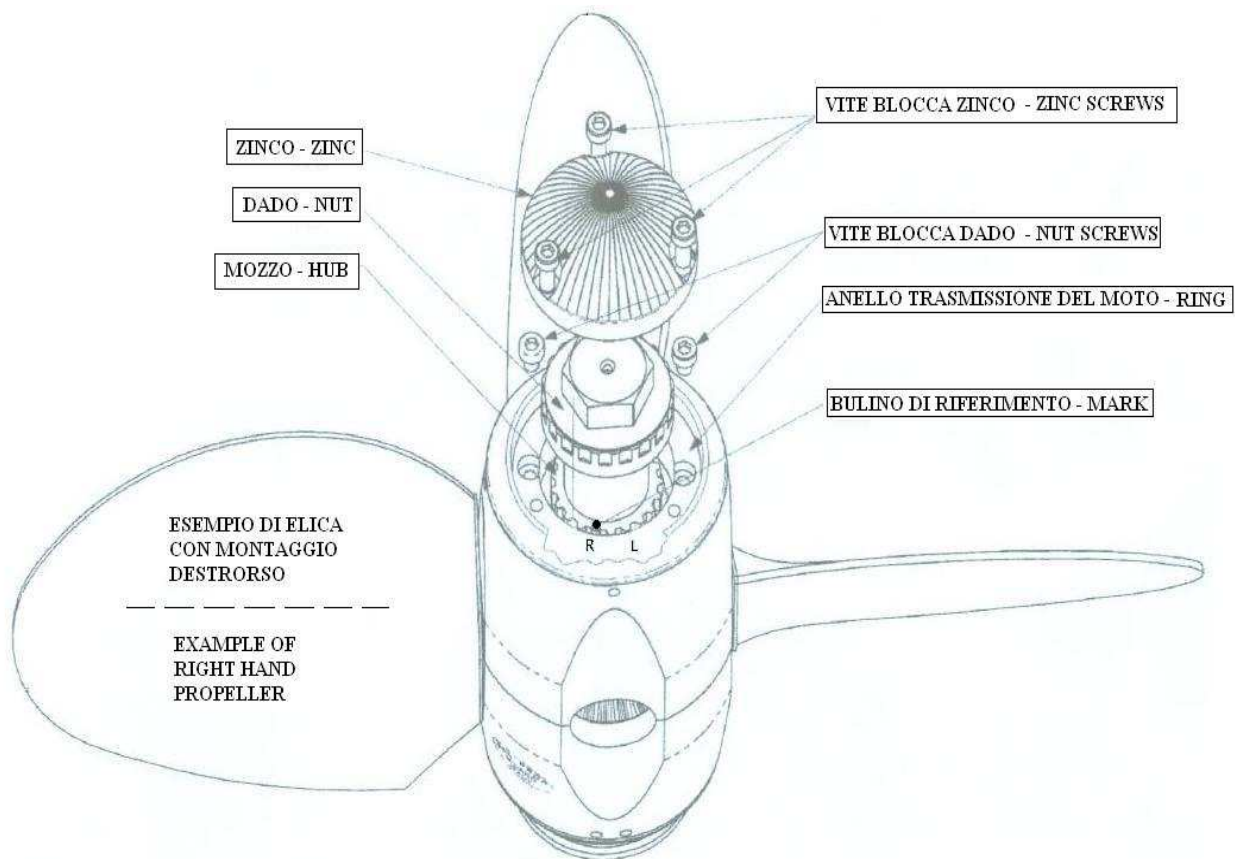

Fig. 4
- Una vez separado el anillo porta zinc verá una marca en el núcleo, hacia popa, y dos dientes que tienen una marca L y R. Situe la hendidura en la marca correspondiente según la hélice sea levógira o dextrógira. (ver fig 4)
In order to change the rotation of the MAX PROP EASY®, from a right hand rotation to a left hand rotation or vice versa do as follows, referring to fig.4
- *If you place the zinc bearing ring in its seat again, matching the “L” tooth with the hub reference mark, you have a left hand rotating propeller, on the contrary, with the “R” tooth you have a right rotating propeller as in fig.4*